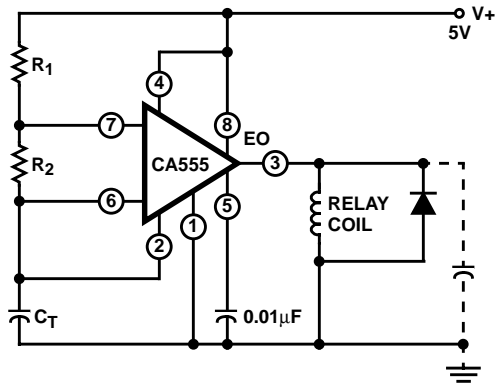

FIGURE 4. REPEAT CYCLE TIMER (ASTABLE OPERATION)
- The threshold current will determine the sum of the values of  $R_1$  and  $R_2$  to be used in Figure 4 (astable operation); the maximum total  $R_1 + R_2 = 20\text{M}\Omega$ .
Figure 4 shows the CA555 connected as a repeat cycle timer. In this mode of operation, the total period is a function of both  $R_1$  and  $R_2$ .